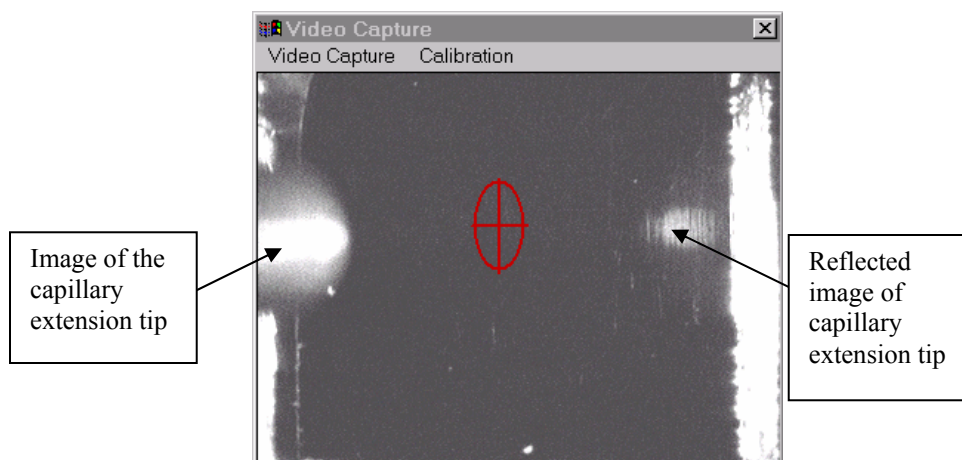

Fig. 8-2 Blank sample spot on the Video Capture screen
Step 1. First, you need to determine if the laser spot is misaligned or not. Prepare several target spots with 1-2 μL of undiluted matrix (it could be either pure matrix solution or matrix/any analyte mixture). After drying, insert the target plate into the source, close it, switch it ON (if it was not switched before) and run the Target software (if this was not done already). Choose any empty (blank) target position. The picture on the Video Capture screen should look as follows (Fig. 8-2):